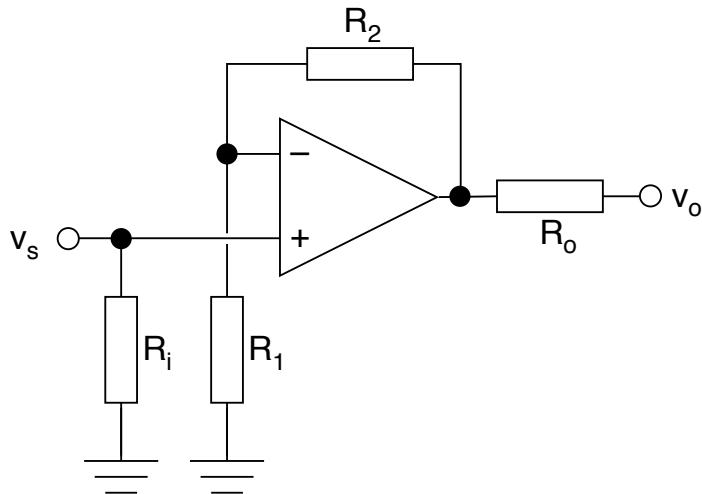

Figure 4.2.1
For a non-inverting amplifier, such as that shown in Figure 4.2.1, what would the gain be if $R_1 = 220\Omega$ and $R_2 = 470\Omega$?
To introduce the op amp lab, we will simulate and measure the frequency response of a simple non-inverting amplifier, as shown in Figure 4.2.1.
- (a) Set up a SPICE simulation of the circuit shown in Figure 4.2.1. Use $R_i = 10\text{ k}\Omega$, $R_1 = 2\text{ k}\Omega$, $R_2 = 18\text{ k}\Omega$ and $R_o = 10\text{ k}\Omega$. Use the TL074 op amp model¹ via the .inc directive and don't forget the $\pm 15\text{ V}$ power supply.